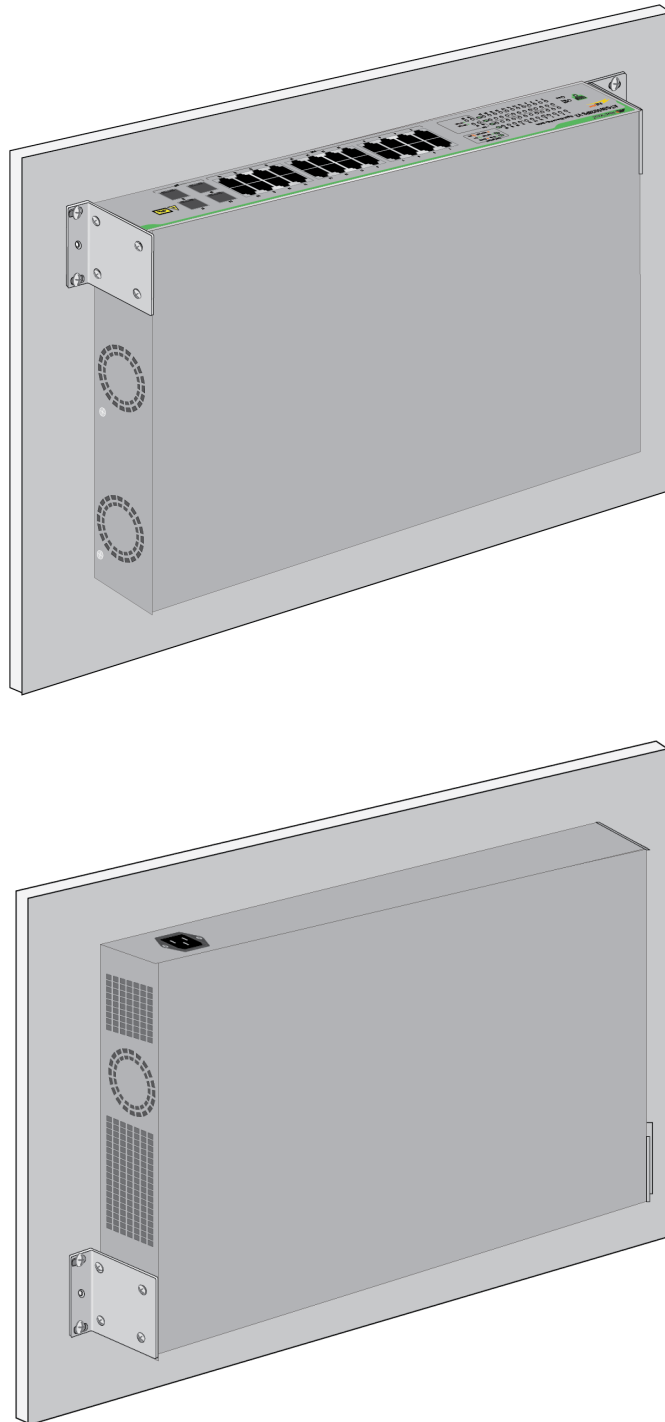

Figure 24. Wall Installations
You can install the switch on a wall with the front panel facing up or down. Figure 24 shows the correct wall installations.
- Position the switch so that the front panel is facing up or down. Refer to Figure 24 on page 56. Do not install the switch with the front panel facing right or left.